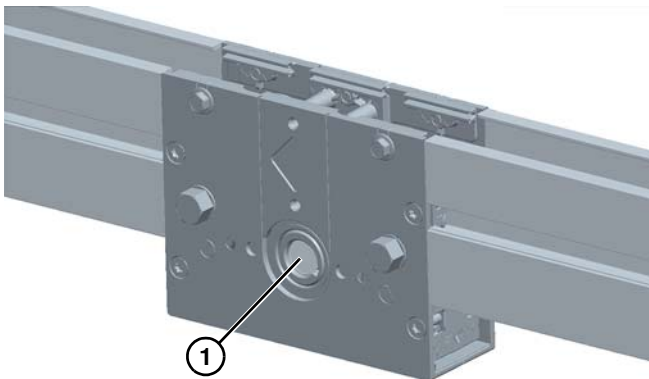

Figure 36
9. Using a punch and hammer, carefully tap the shaft (**Figure 36, item 1**) out of the mid drive assembly.